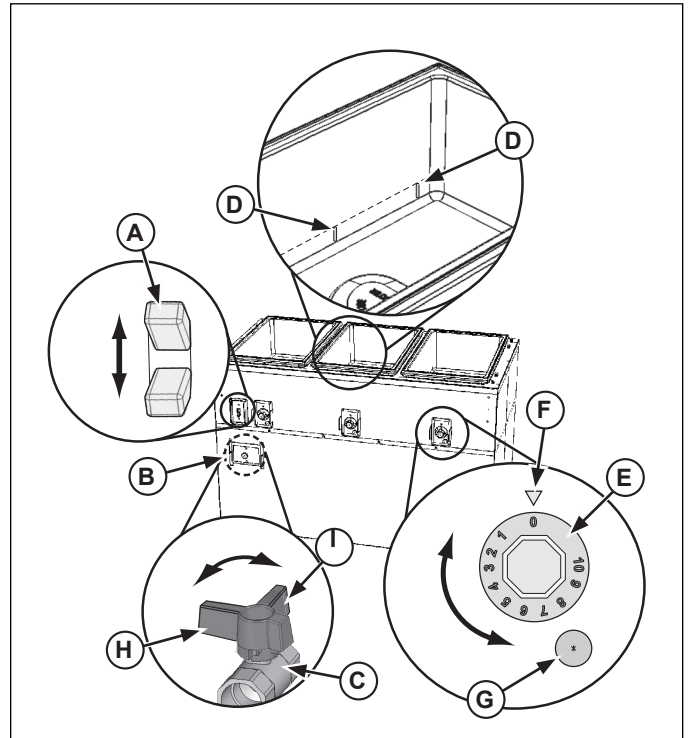

Figure 2. Deluxe Hot Station Controls
1. Open the valve access door (B) and check that the drain valve (C) is in the closed position (H). See Figure 2.
2. Fill the well to the correct level marks (D) with clean fresh water. Correct level is about 1" (2.5 CM) of water. Do not over fill.
4. Preheat the water in the wells by covering wells with empty food containers or covers. Turn the power switch (A) to the "ON" position and set the heat control(s) (E) to the maximum setting. Preheat for 45 minutes. The water will be boiling.
7. Set the heat control(s) (E) to maintain proper hot holding temperature for food safety. Regularly check food temperature.
- (A) **ON/OFF switch.** Set switch to the up position for "ON". Set switch to the down position for "OFF". The switch will illuminate when in the "ON" position.
- (B) **ACCESS DOOR** for drain valve. Open or remove to access the drain valve.
- (C) **DRAIN VALVE.** Used to empty water from the well(s).
- (D) **DRAIN VALVE CLOSED** position. When the valve is in this position the drain is closed.
- (E) **DRAIN VALVE OPEN** position. When the valve is in this position the drain valve is open.
1. Open the valve access door (A) and check that the drain valve is in the closed position (D). See Figure 2.
3. Turn the power switch (A) to the "ON" position. This unit does not have an adjustable temperature setting. Allow the unit to run for approximately 30 minutes. For the best performance when using ice with this unit, allow unit to run for approximately 2 hours before adding ice. This will help the ice remain solid.